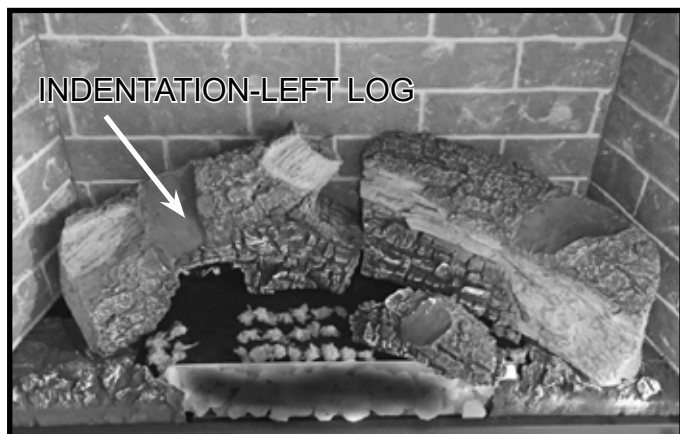

Figure 7 Location of Left Log indentation
- Remove top left log from packaging. Place the log into the indentation on the rear left log. The right tip of the log will rest on the ember tray and the Teco-Sil rock. See Figure 7 and Figure 9.